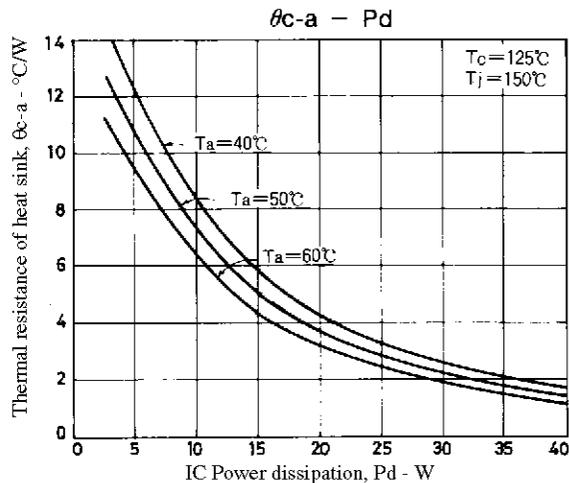

Figure 3. STK4026V θc-a – Pd
Figure 3 shows the relation between Pd and θc-a given from (1) and (3) with Ta as a parameter.
The thermal resistance of a heat sink is obtained from Figure 3.